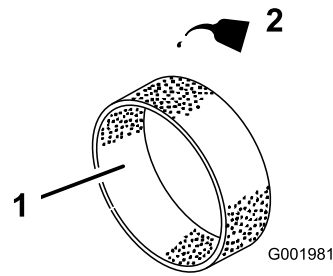

Figure 43
4. Put one or two ounces of oil on the element (Figure 43).